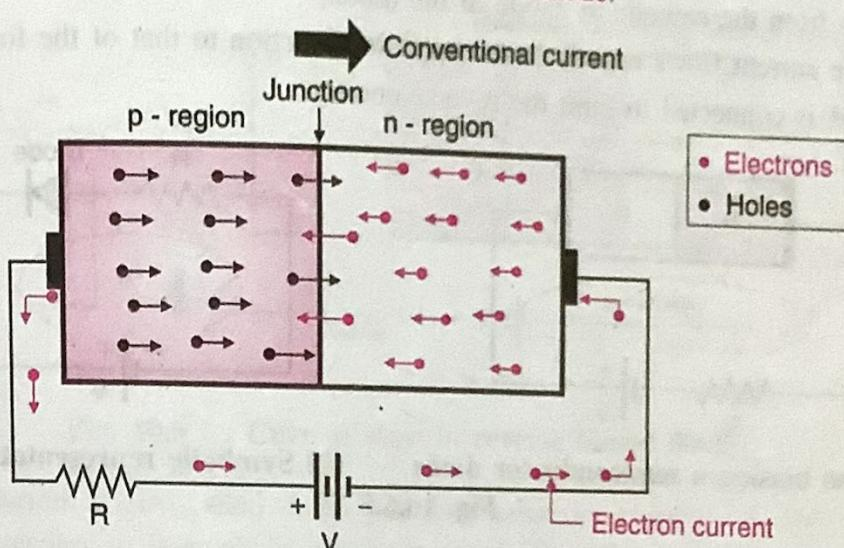

Fig. 10.6.3 : Current flow in the forward biased diode
- The large number of majority carriers crossing the junction constitute a current called as the forward current. The current flow shown in Fig. 10.6.3 is the electron current which is in the opposite direction to that of a conventional current.